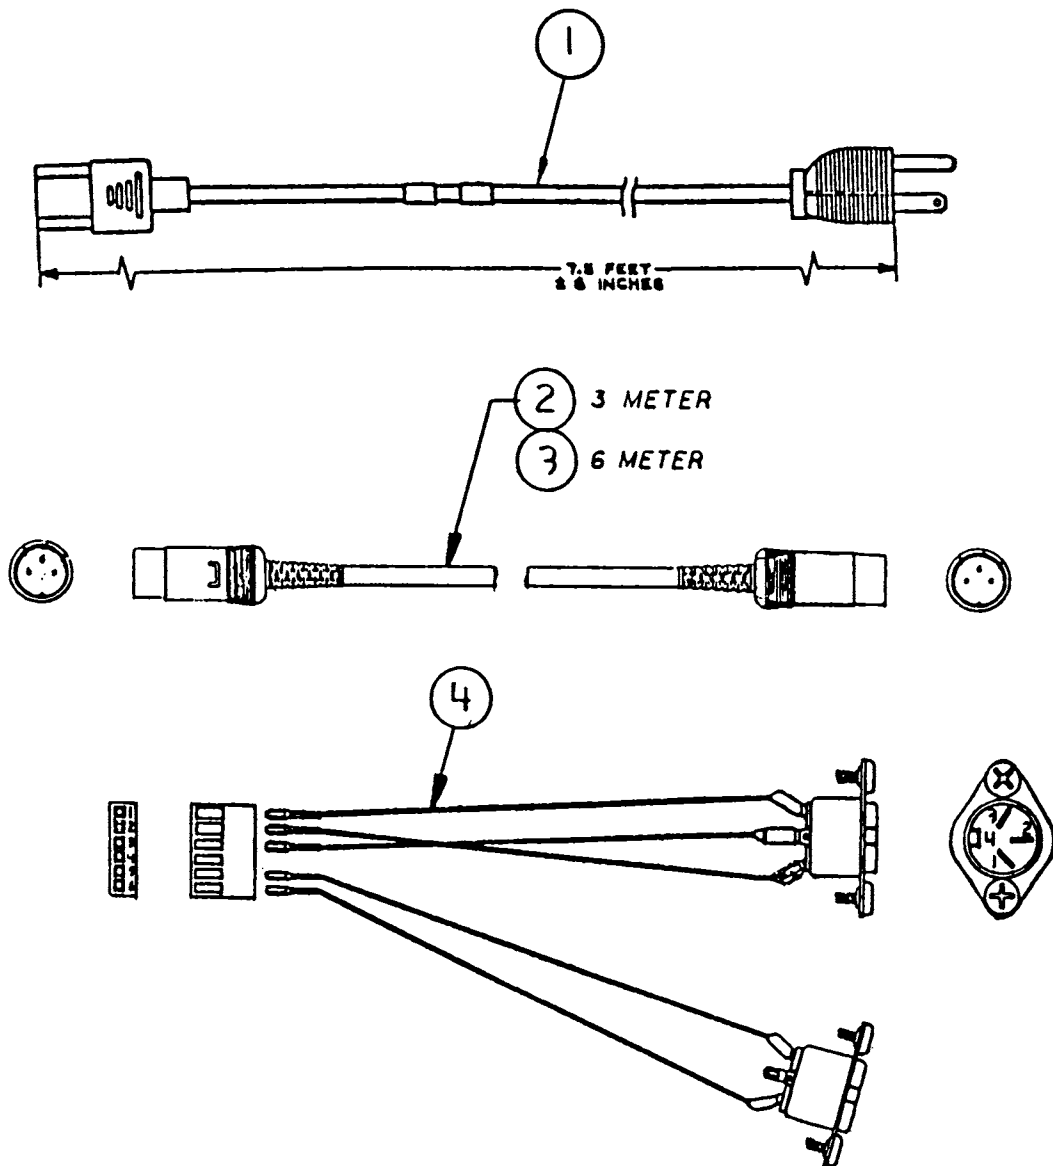

FIGURE 8
IPL.9	Cables (Figure 8)
□ CABLES (Figure 8)